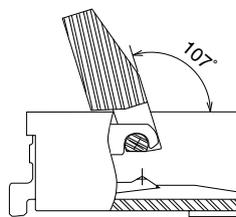

Fig.2
- ③ The actuator will not open more than 107°. Do not force it to open beyond this range. (Fig. 2)